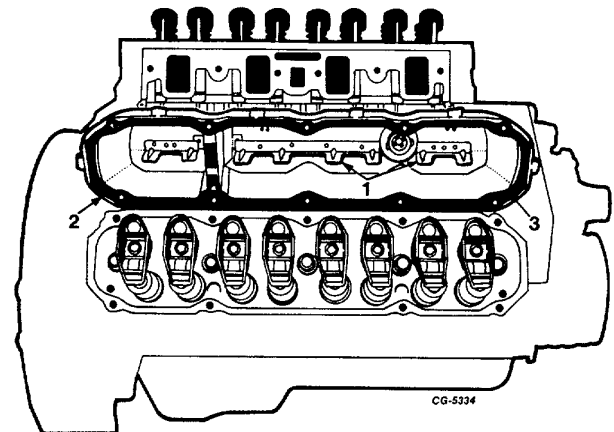

Fig. 41 Removing Cylinder Head Covers
43. Remove cylinder head cover bolts on both banks and remove covers and gaskets from both heads, Figure 41.